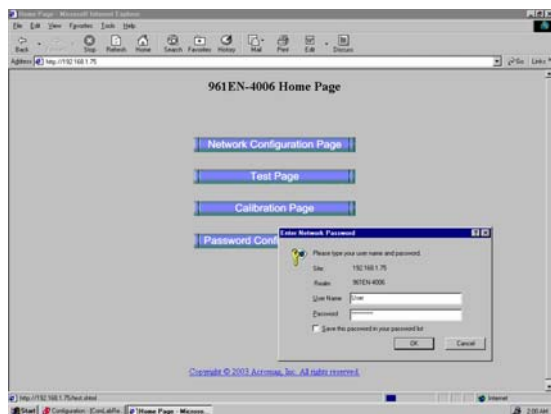
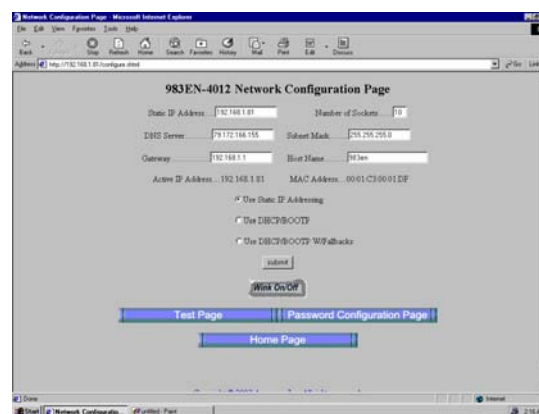

FIGURE 4 Home Page
FIGURE 5 Configuration Page
3. The module Home page will be displayed; See Figure 4. Select Network Configuration Page; See Figure 5. The default user name and password is “User” and “password00”.